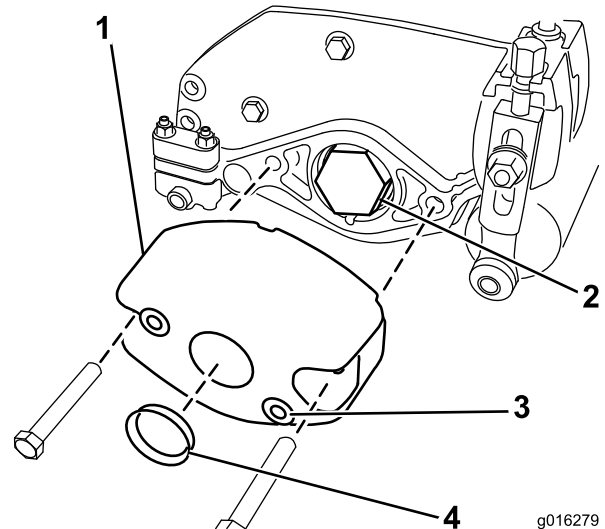

Figure 3
2. Remove the fasteners and the counterweight from the end of the cutting unit; see Figure 3. Pushing from the inside, remove the plug from the large hole in the center of the counterweight.
5. Attach the counterweight back onto the cutting unit with the previously removed fasteners; see Figure 3.